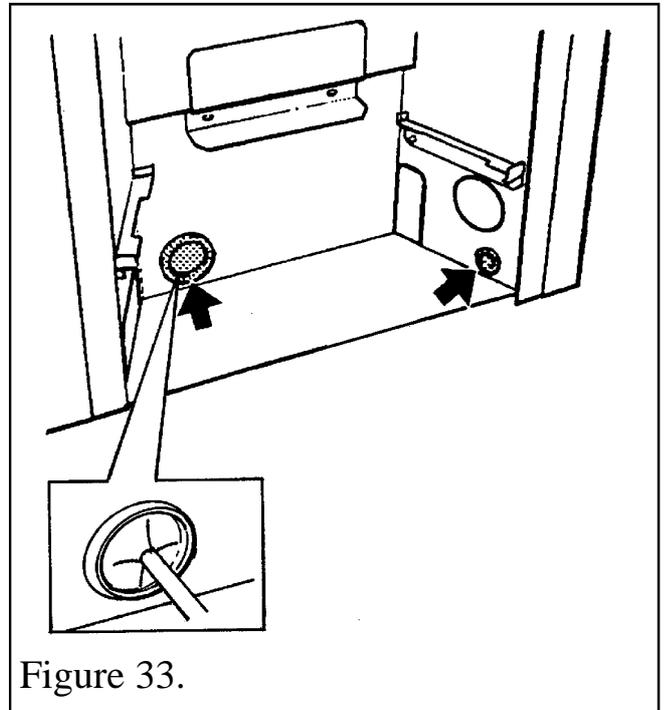

Figure 33.
3. If gas supply is to the rear of the appliance, then entry is via the large grommet, at the lower left hand side of the back face. Pierce the grommet to allow pipe entry. Gas supply can also be accommodated at the lower right hand side of the appliance. This small grommet will require removal or a careful incision for pipe entry (See figure 33).